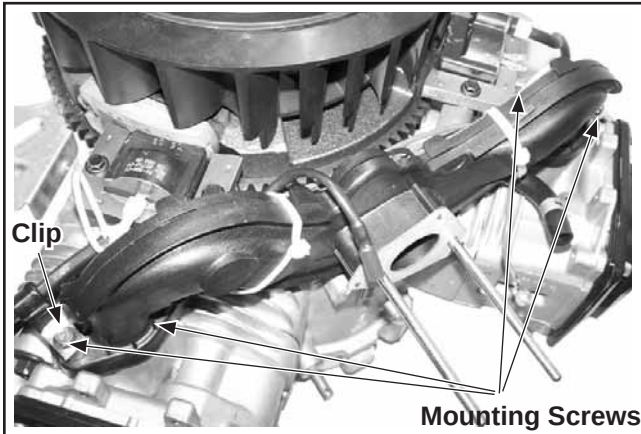
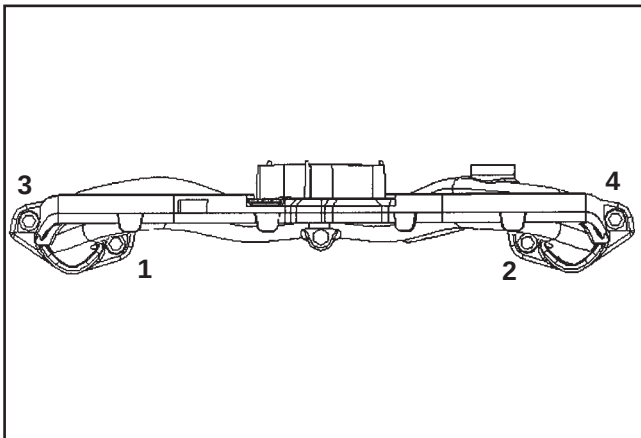

Figure 10-56. Installing Intake Manifold with Wiring Harness.
Figure 10-57. Intake Manifold Torque Sequence.
1. Install the intake manifold using new O-Rings, with the wiring harness attached, onto the cylinder heads. Slide any wiring harness clips onto the appropriate bolts before installing. See Figure 10-56. The ground lead for the fuel solenoid (equipped models) should be attached to the inner screw on the #2 side. Using the sequence shown in Figure 10-57, torque the four screws in two stages, first to **7.4 N·m (66 in. lb.)**, then to **9.9 N·m (88 in. lb.)**.